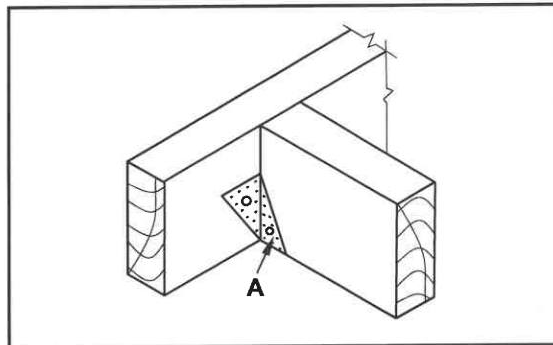

FIGURE 4.4
- 4.4 FIGURE 4.4 below illustrates two roof members that are joined together by means of part A.